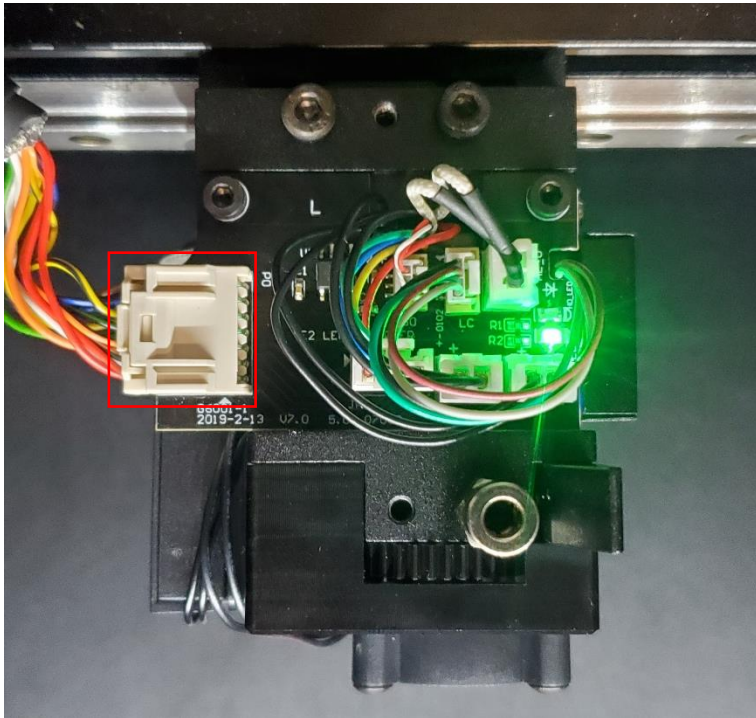
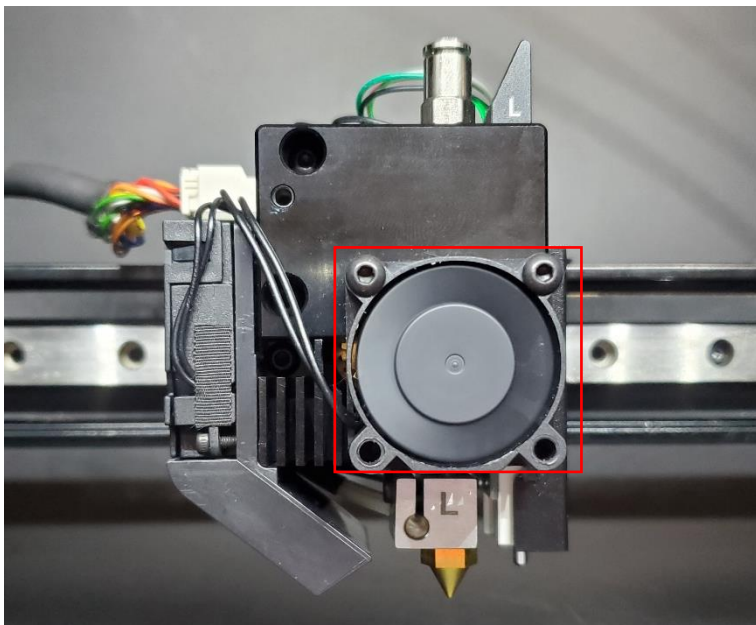

Figure 3: Wiggle the extruder connection cable shown in the red box
Figure 4: Check the throat tube (indicated with a red box) cooling fan speed
2. Gently wiggle the extruder connection cable (refer to **Figure 3**) and observe whether the speed of the front fan changes (refer to **Figure 4**). If the front fan speed does change, then there is a problem with the extruder connection cable. The extruder connection cable will need to be replaced.